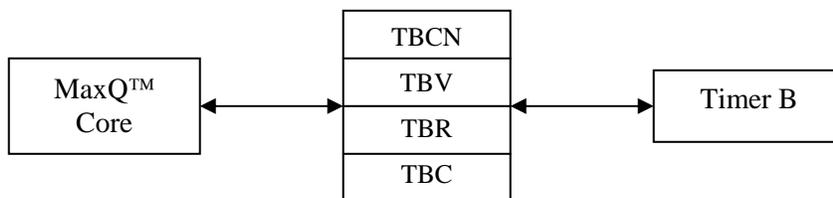

Figure 5. Timer B Interface
As illustrated in Figure 5, a 16-bit Phase Delta Register (PR) is used by the user program to select a suitable phase delta for its baud clock. When the baud rate generator is enabled, the content of the phase delta register adds to the value of the 17-bit register triggered by the system clock, essentially performing a phase accumulation. The baud clock is the result of the adder carry output to the most significant bit of the 17-bit register. Note that the baud clock is 16 times of the desired baud rate for mode 1 or 3. The trigger clock can be divided by 4 when selected by the SMOD bit.